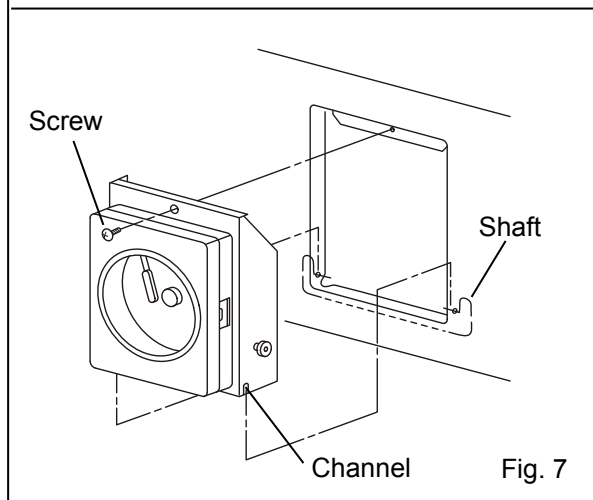

Fig. 7
10. Set the temperature recorder with the channel on the recorder fitting aligned with the shaft and fix the temperature recorder by a screw at the space for temperature recorder. [Fig. 7]